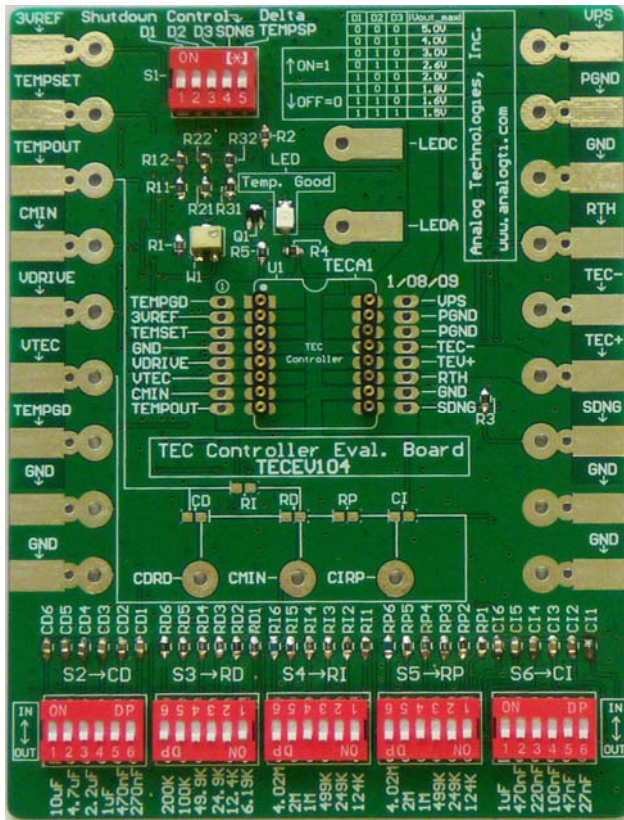

Figure 1 TECEV104 Photo
Its photo is shown in Figure 1. The TECA1-5V-5V-D TEC controller module is located in the center of the TECEV104 Evaluation Board. The voltages of all its pins can be measured directly by probing the vias on the left and right side of the module sockets which are connected directly with pins of the electronic module. Some of the pins are also connected to the soldering pads with two vias on the edges of the board. The names of all these nodes are marked on the board.
There are solder pads on the left and right edges of the board. These pads can be used for connecting the external instruments or components with and the connections can be made by soldering wires, clipping by alligator clips or probing by probes. See Figure 1, 2 and 3. There are solder pads also on the top and the lower side center of the board. These pads can be used for connecting the external instruments or components and the connections can be made by probing with probes or soldering wires.
1. Hook up the power supply, TEC and thermistor. There are 2 solder pads in the upper right area on the edge for connecting the DC power supply voltages in the right polarity as indicated onto the board. Usually the power supply is set to 5V. There are also 2 solder pads in the center right area on the edge for connecting the TEC terminals in the right polarity as indicated onto the board. Connect the thermistor terminals to the board, there is no polarity requirement. On the top of the board, there is the switch bank S1, the fifth switch Delta TEMPSP is used to control connection or disconnection for the thermistor. These connections can be done by clipping or soldering on the pads, see Figure 1. Check the evaluation board connections, making sure that they are all correctly connected.
7. Set output voltage limit. Turning switches D1, D2, and D3, up and down will set the TECA1-5V-5V-D to different output voltage limit: 1.5V, 1.6V, 1.8V, 2.0V, 2.6V, 3.0V, 4.0V and 5.0V. See Figure 1, 2, 3 and 7.
a. To know the actual target temperature, use a voltage meter to measure the voltage between the TEMPOUT and the GND pins, the reading result is: target temperature = $15^\circ C + (\text{TEMPOUT voltage (V)}) * 6.67^\circ C$ for approximation (see the curve in the TEC controller data sheet).
c. To try other values of capacitors not provided by the evaluation board for the capacitors in the compensation network, turn down the capacitor switches, the "OUT" position, connect the component to the corresponding soldering pads as marked on the evaluation board, see Figure 1.
d. To shut down the TEC controller, turn the Shutdown Control switch SDNG to the "Off" position, see Figure 1.